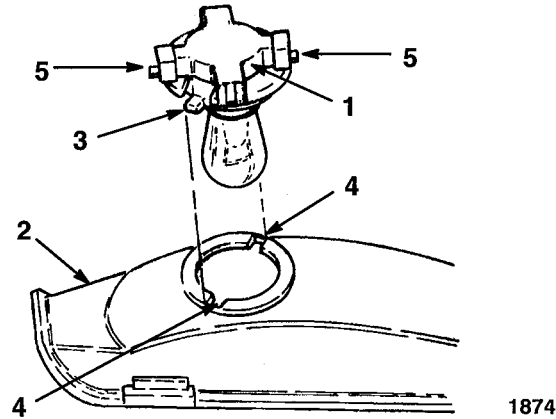

Figure 27
3. Rotate the bulb holder 1/4 turn counterclockwise and remove it from the reflector (Fig. 27).
2. The bulb holder has two tabs (Fig. 27). Align the tabs with the slots in the reflector, insert the bulb holder into the reflector and rotate it 1/4 turn clockwise until it stops.